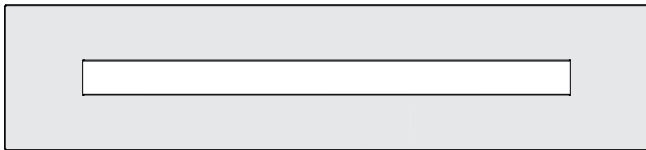

Figure 2 – VFLB(48,60)SP90(N,P)
2. Place logs and rocks in the shaded areas in **Figures 2 and 3**. Do not place logs where they will contact flames or inside the flanges and glass surrounding the burner. Place any unused logs and rocks in the original carton and store in a dry place out of the reach of children and pets. The look of the fireplace can be refreshed by rearranging or swapping out logs and rocks. See page 4 for suggested log placement for each model.